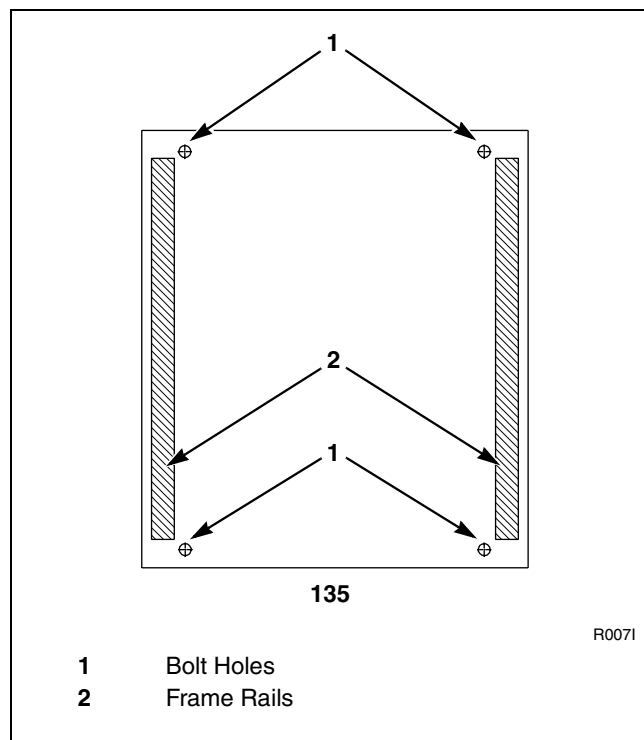
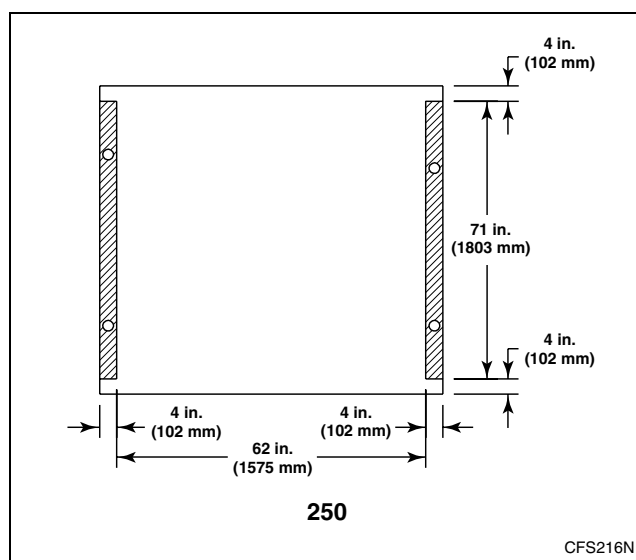

Figure 11
Figure 12
5. Fill the spaces between the washer-extractor base and floor with a good quality non-shrinking machinery grout to ensure a stable installation. Refer to *Figure 11* for grouting the 135 pound capacity model. Refer to *Figure 12* for grouting the 250 pound capacity model.